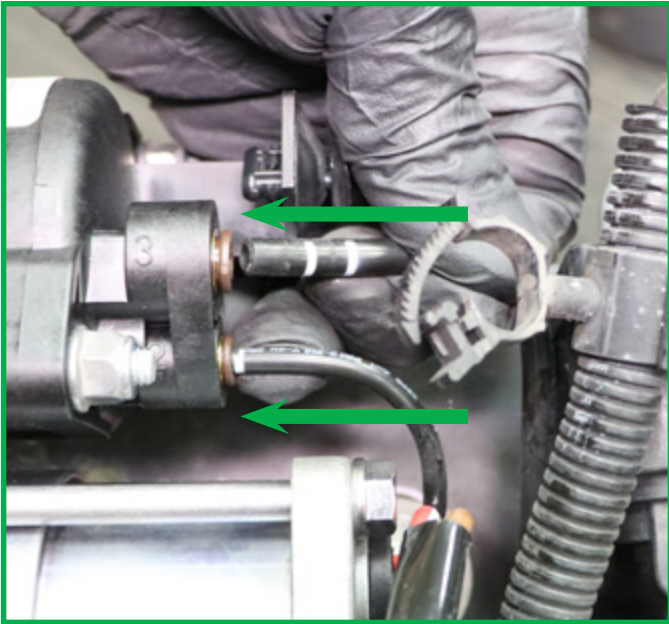

FIGURE 28
5. Insert the existing air lines in to the new compressor. Press in until lines are firmly snug in the compressor. (Figures 28, 29)